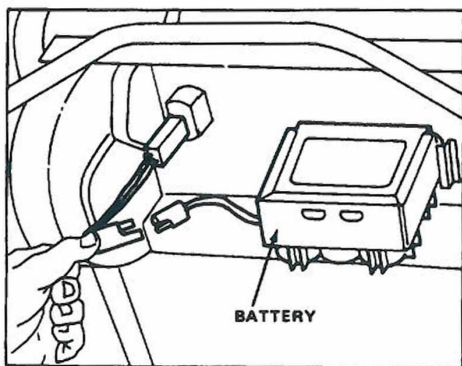

Figure 27
1. Stop engine and disconnect wire harness from battery terminal (Fig. 27).